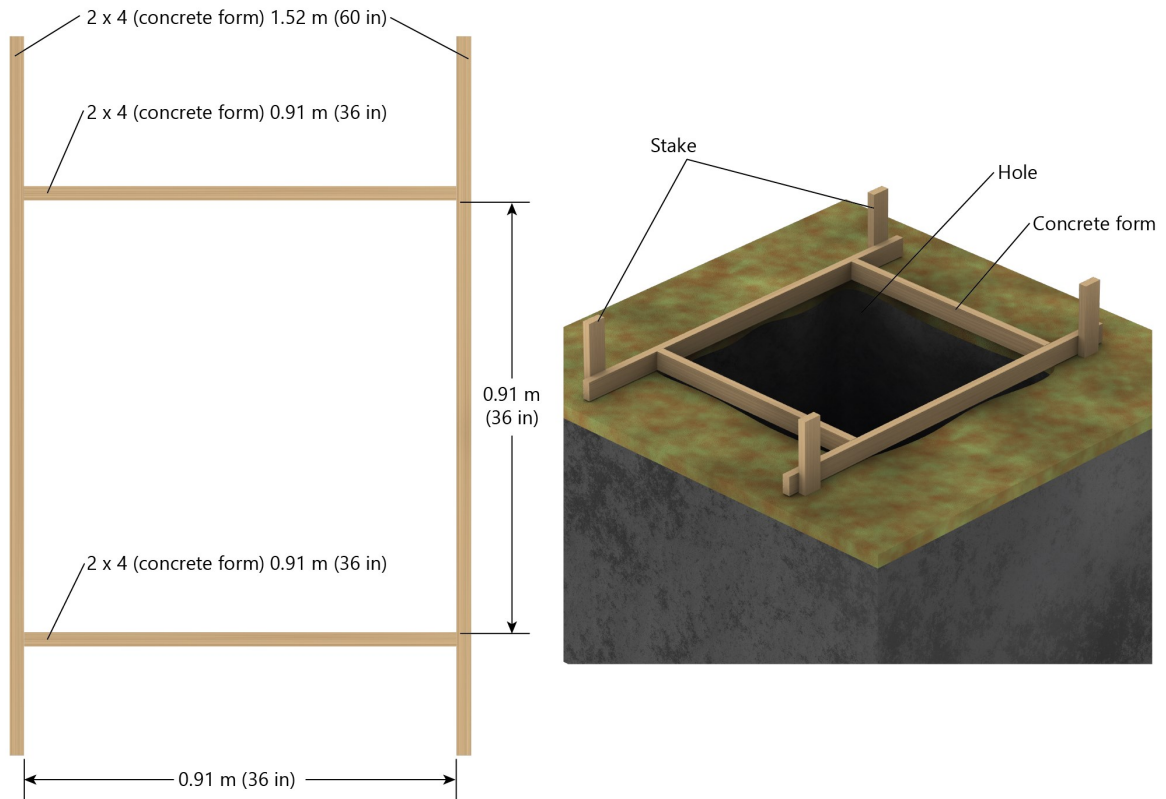

FIGURE 7-25. Concrete form dimensions and placement
2. Optional: construct a concrete form out of 38 x 89 mm (2 x 4 in) lumber, 0.9 m (36 in) square (inside dimensions). Center the form over the hole and drive two wooden stakes along the outside edge of each side (FIGURE 7-25 (p. 31)). Level the form and secure it in position by driving 65 mm (2 1/2 in) screws through the stakes and into the form as shown in FIGURE 7-25 (p. 31).